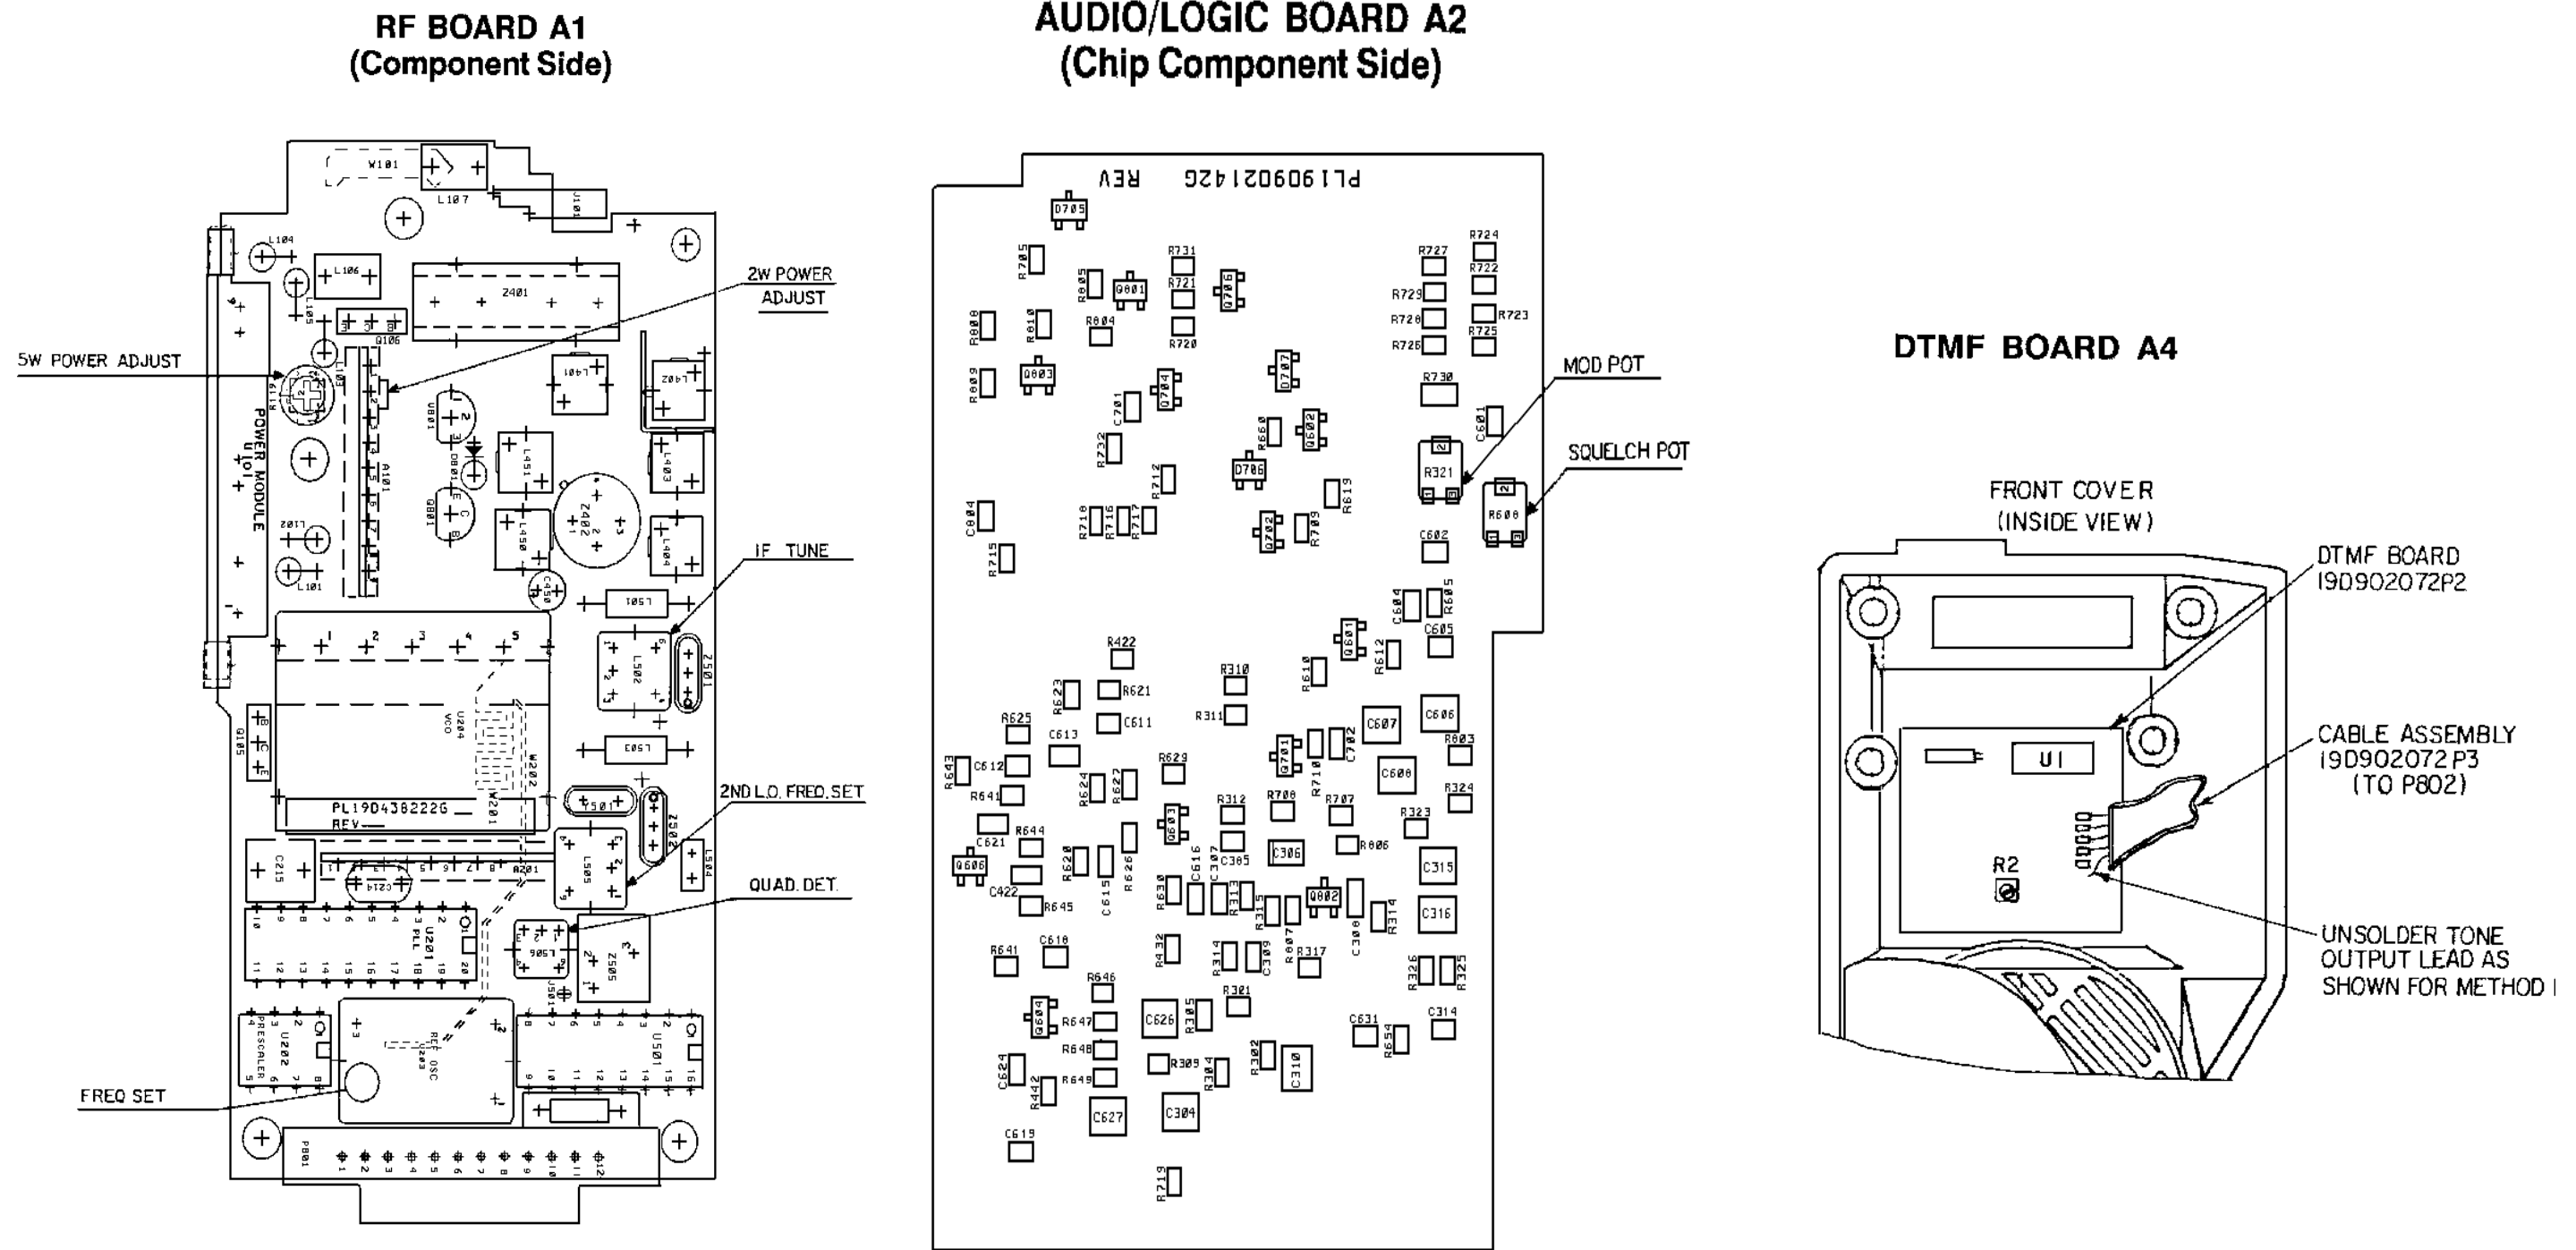

Figure 1 - Location Of Tuning Controls And Test Points
Initially, the PCS Personal Radio is aligned and ready for use before leaving the factory. However, if maintenance has been performed, the following procedure is intended to be used by a qualified service technician (refer to Figure 1 for location of adjustment controls and test points).
1. Unsolder the DTMF board tone output lead from DTMF board 19D902072P1 at the output pin shown in Figure 1. (This is the lead that terminates in TB802-5.)